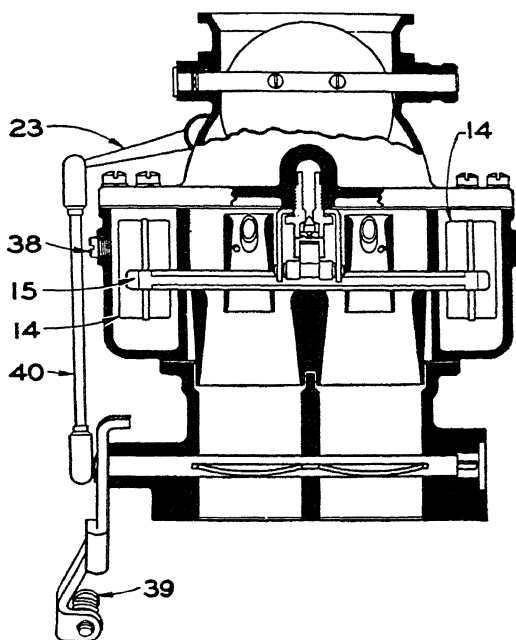

Fig. 106. Buick-Stromberg Carburetor Showing Double Venturi and Barrels
**Fig. 105.** Part Sectional View through Buick-Stromberg Carburetor Showing Main Metering Jet No. 5. Other parts shown in this figure and in Figs. 106 and 107 are as follows:
**Idle Metering and Adjustment.** When the engine is operating on idle speed, fuel flows from the idle tube 4, Fig. 105, where it is mixed with the air, from the air bleeder at the top of the idle tube. This mixture passes to the idle channel where additional air is mixed with it to the secondary idle air bleeder 8. It is then discharged through idle holes 10. On closed throttle, fuel is drawn from the lower idle discharge hole due to the high suction at this point. As the throttle is opened, suction is also placed on the upper idle discharge holes to feed additional fuel until the throttle is opened to the position where the main discharge jet comes into operation. Before making the adjustment of the idle needle valve, the engine should be well warmed up so that the intake manifold is warm to the hand and the throttle stop screw is on the slow idle. An idle speed of approximately 7 to 8 miles per hour is recommended. This is secured by adjusting the stop screw 39, Fig. 106. Fuel for the low speed adjustment is controlled by means of the idle needle valves 9, Fig. 105. Turning the needle in will give a leaner mixture and turning it out will give a richer mixture. The best plan is to take one barrel at a time and turn the idle adjustment in slowly until the engine begins to lag or run irregularly, after which the needle is slowly turned out until the engine begins to roll or show signs of richness. The last step is to slowly turn in the adjustment again
**Fuel Level.** Normal factory setting for the fuel level is  $\frac{5}{8}$  inches below the top surface of the float chamber which corresponds to the bottom level of the sight plug 38, Fig. 106, with the engine idling. The float 14 and the float needle valve 18 operate to control the fuel level in the float chambers. If there is question of the fuel level being correct, the plug should be removed in order to observe the